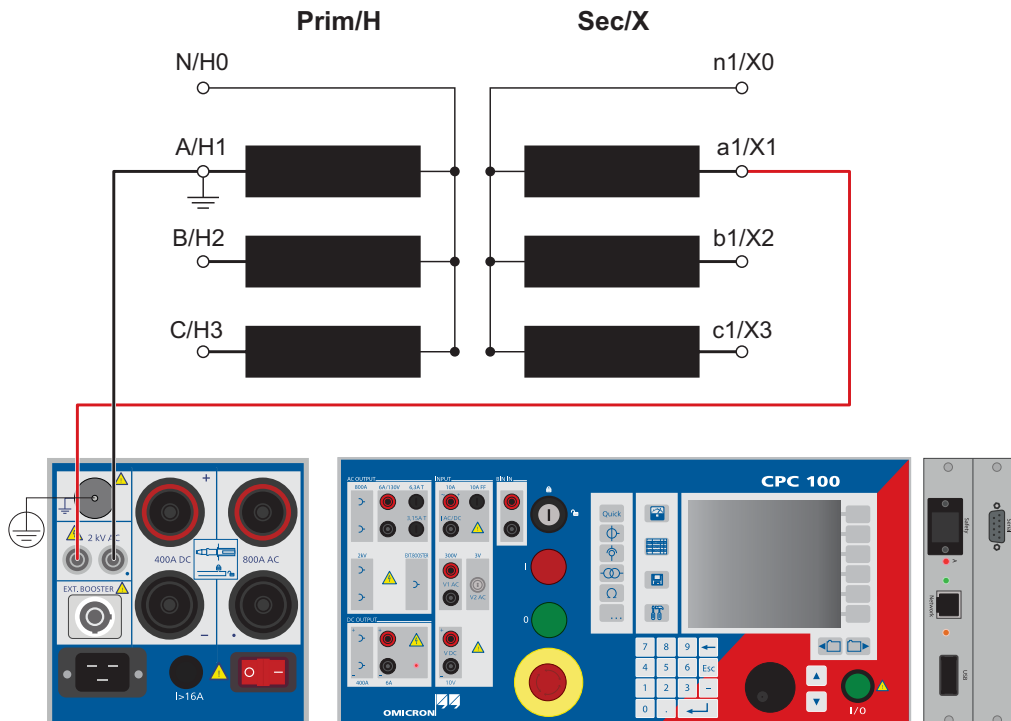

Figure 6-28: Setup for a power transformer voltage withstand test
As shown in Figure 6-28, connect the 2kV output socket without point to the transformer's secondary (a) winding connection, and the output socket marked with a point to earth and the transformer's primary connection (A).